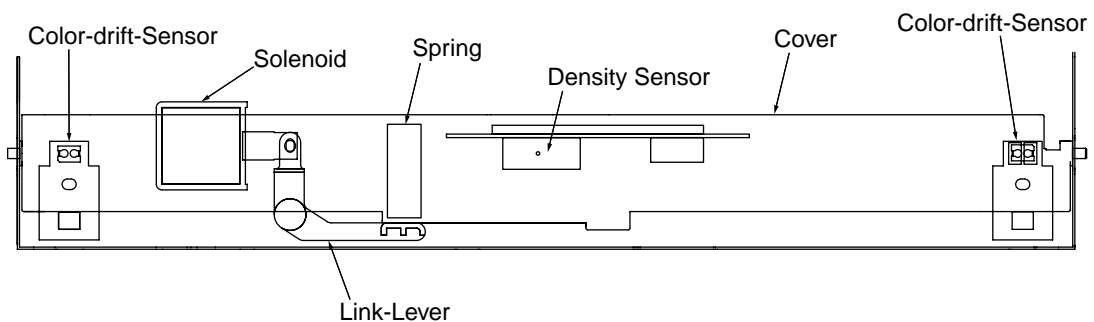

Figure 2-9
1. As illustrated in Figure 2-9, when the Solenoid is ON, the Link-Lever moves, causing the color drift sensor and density sensor cover to open.